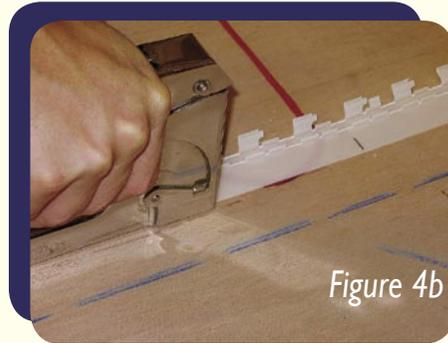

Figure 4b
- Staple the strapping to the floor such that the hinged clips will close toward the outside of the cable hairpin turns. The clips should remain open initially, facing upwards at 90° to the floor (Figure 4b).